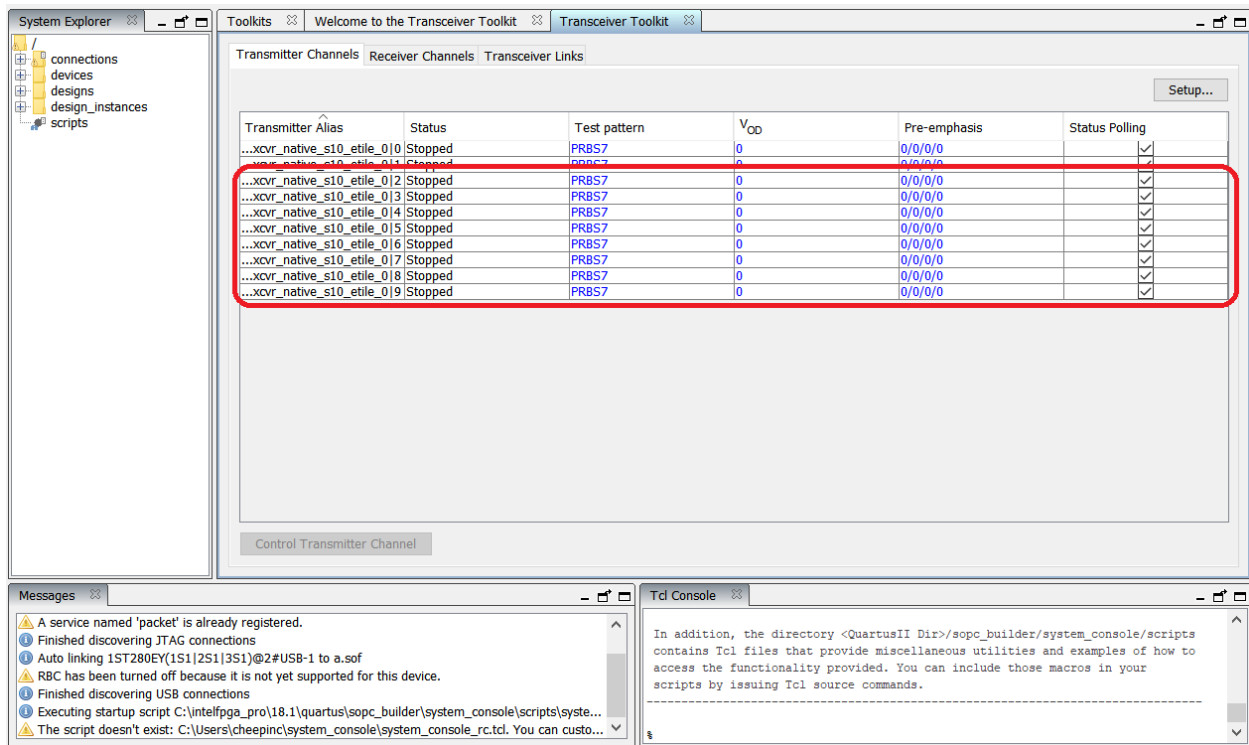

Figure 4. Opening Transceiver Toolkit and establishing connection to device
4. After the programming is completed, open the Tools -> System Debugging Tools -> Transceiver Toolkit and establish connection to the Intel® Stratix® 10 TX device as shown in Figure 4.